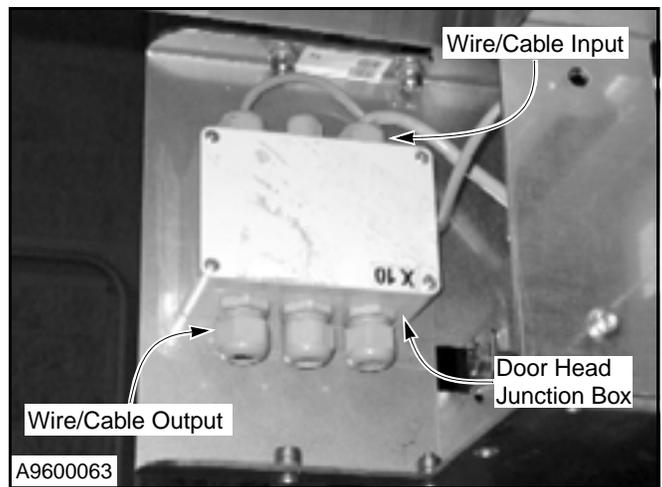

Figure 16
3. Remove the cover from the door head junction box located above the drive motor assembly. (See Figure 16.)